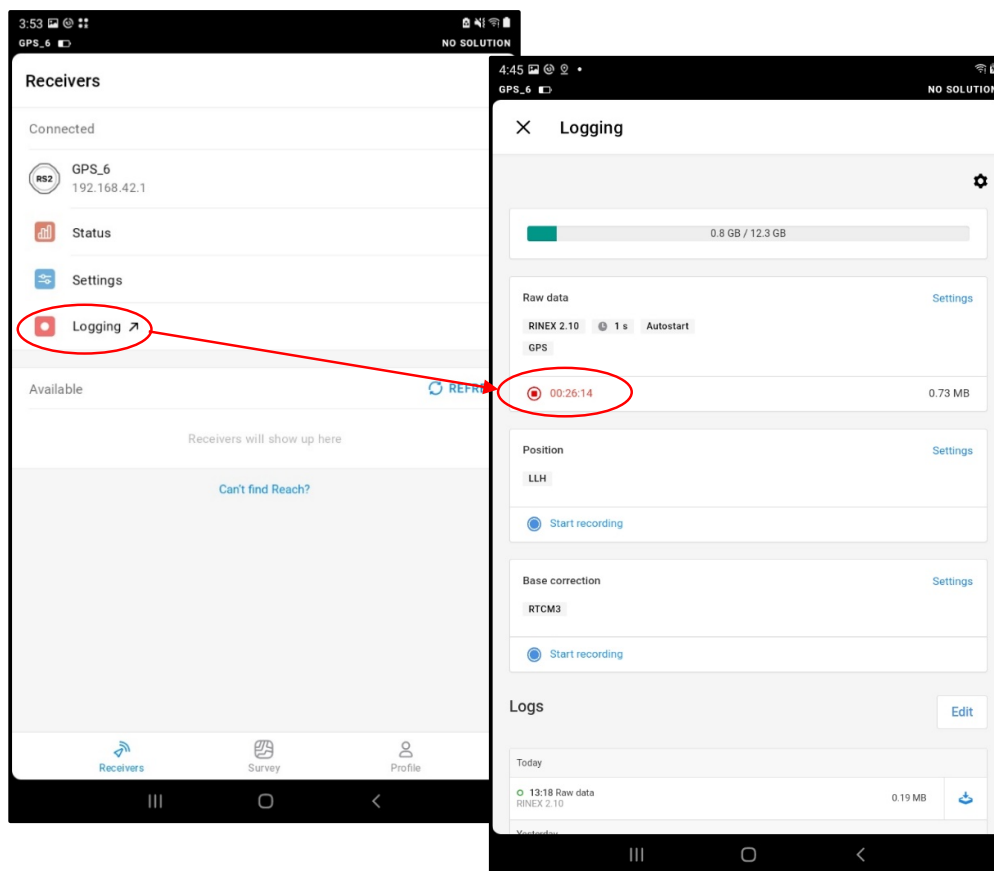

Figure 31. Figure showing Emlid Reach RS2 workflow for confirming data is logging displayed with red circles and arrows showing the workflow.
- c. Select “Logging” on the main page to view logging page (Figure 31)